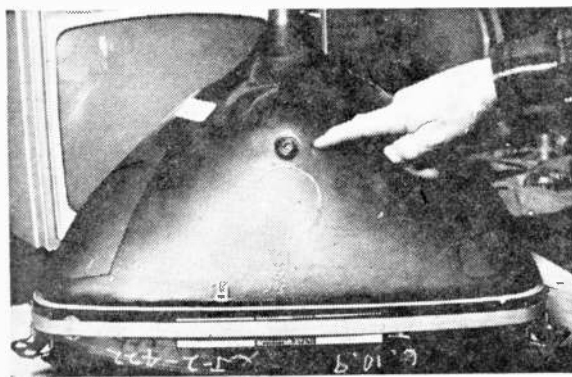
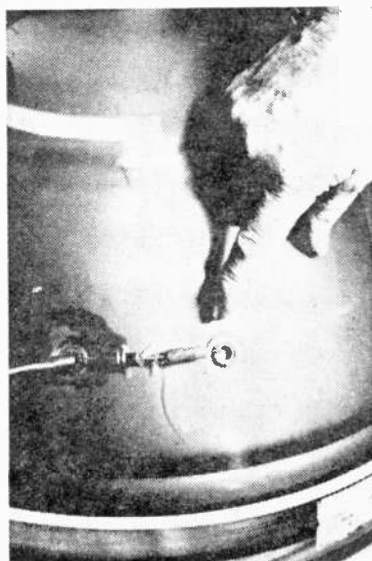

Fig. 10. High-voltage connector is at top of 25-inch CRT's—on side of 19- and 23-inch CRT's. Make sure!
Fig. 11. Resistor, with spring, bridges anode buttons.
the top of the set on a 25-inch picture tube (Fig. 10). The 23-inch and 21-inch round-CRT anode connections (Fig. 11) are on the side of the tube.
**Figure 10. Tuning your CB transceiver for maximum watts per mile takes time, knowledge of test gear used. Here's complete test set-up—keep Field Strength Meter as far from antenna as is practicable.**